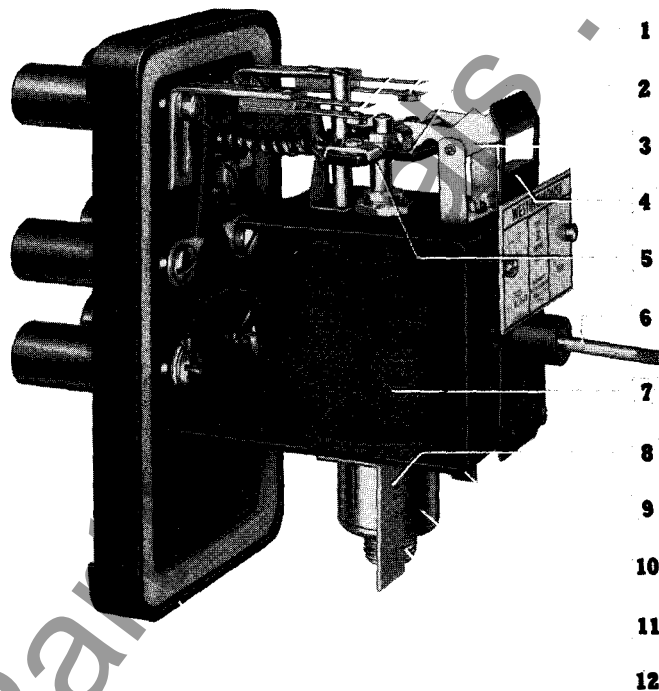

fig. 2
SC, SC-1, SV, SV-1: These types may be set for a specific value of pick-up by adjusting the magnetic shunt (item 10, fig. 2) to the desired value indicated on the calibrated scale. The relay may be set by test for desired dropout values.